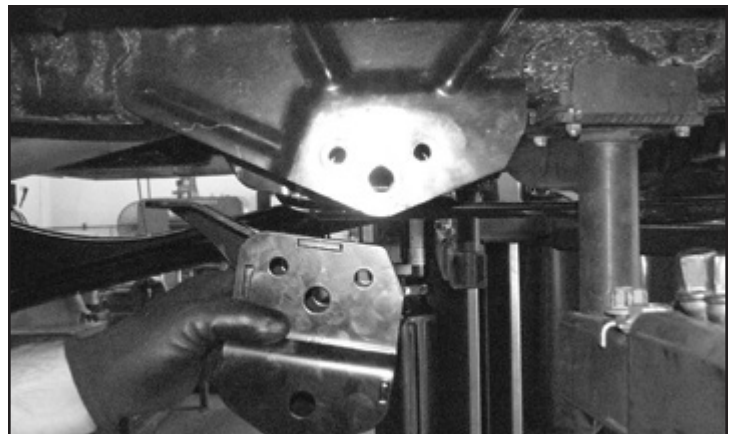

FIGURE 33 - STEP 38
38. Slide the Fabtech radius arm mount into the factory pocket with the frame tab facing the front of the truck. **SEE FIGURE 33**